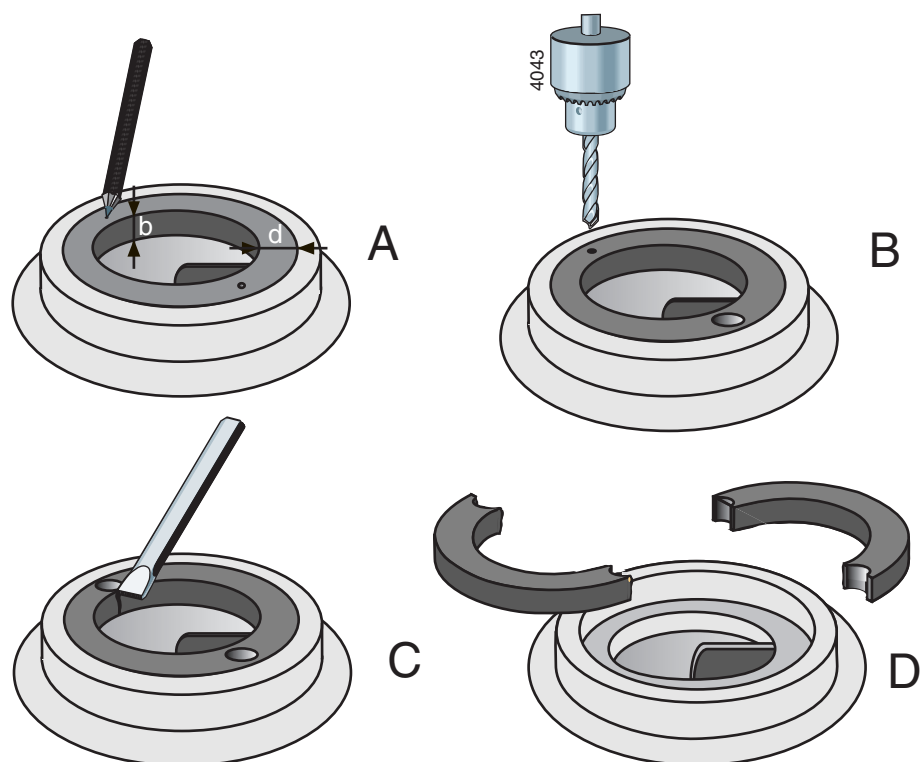

Figure 19: Removal of wear ring.
- 1 Measure the thickness (d) and the width (b) of the ring, see figure 19 A.
- 2 Make a centre hole in the middle of the edge of the ring at two opposite points, see figure 19 B.
- 3 Use a drill with a diameter just a little bit smaller than the thickness (d) of the ring and drill two holes in the ring, see figure 19 C. Don't drill deeper than the width (b) of the ring. Take care not to damage the fitting edge of the pump casing.
- 4 Use a chisel to cut the remaining part of the ring thickness. Now you can remove the ring in two parts from the pump casing, see figure 19 D.